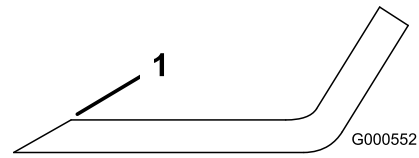

Figure 81
1. Use a file to sharpen the cutting edge at both ends of the blade (Figure 81).
**Note:** If the blade is not balanced, file some metal off the end of the sail area only (Figure 81).